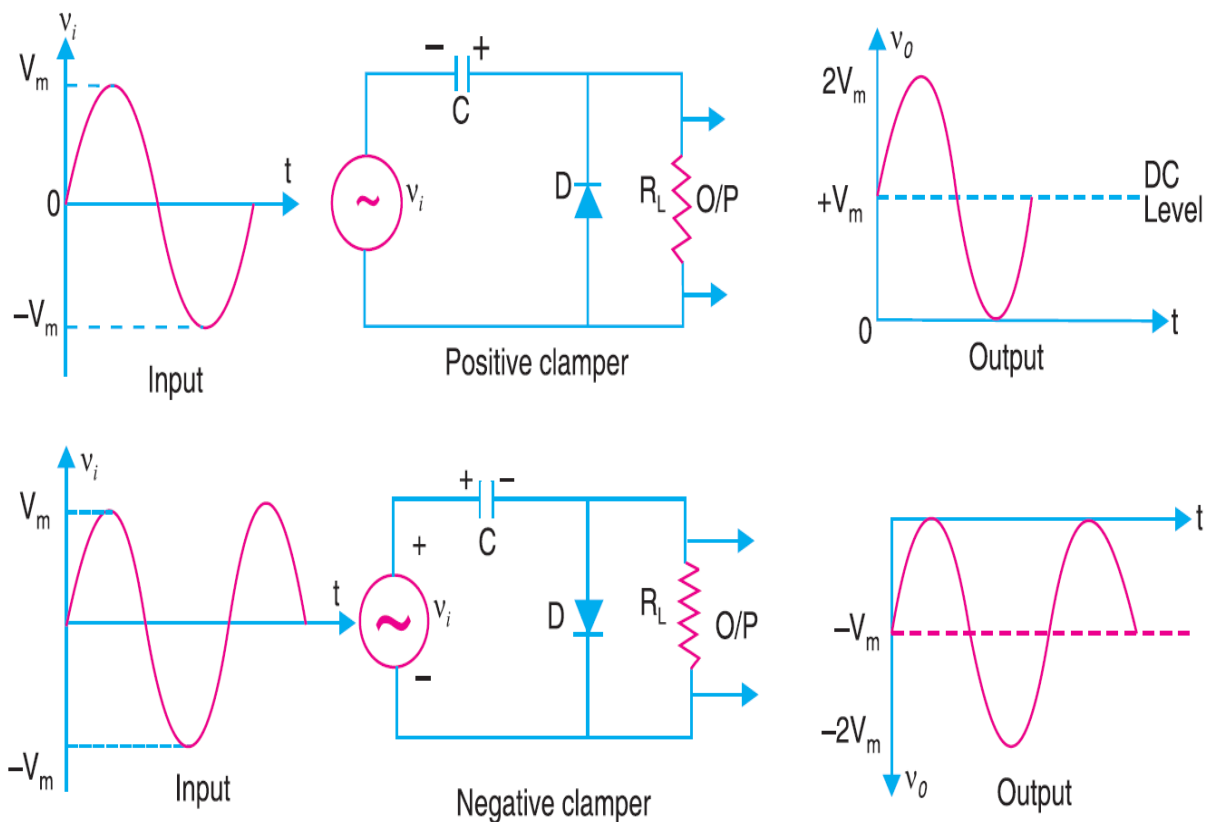

Figure 4.5: Clamper Circuit
- Generate AC voltage in frequency generator as given in figure 4.5